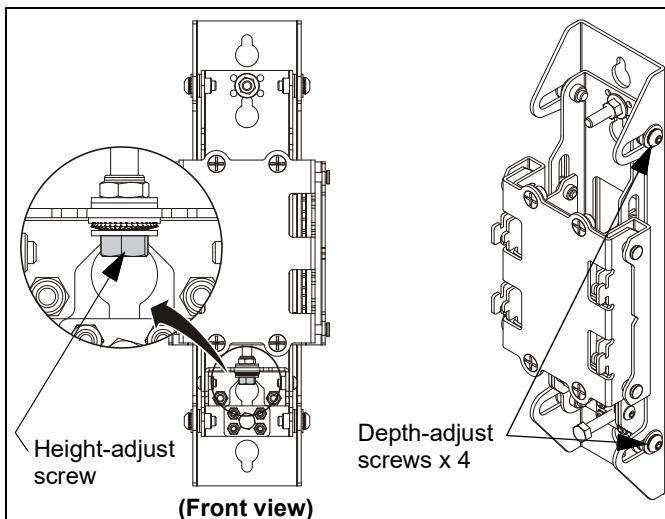

Figure 24
- Adjust the height of the mounting rail via the wall upright, as necessary, to level the mounting rail on the wall. (See Figure 24)